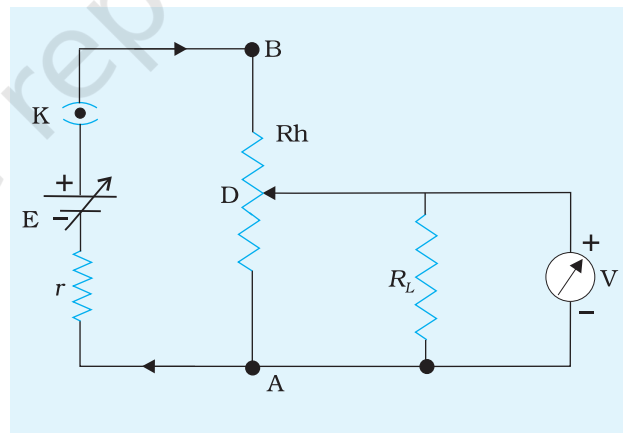

Fig. A 6.3
- A rheostat R_h used in laboratories along with a key K , battery of emf E and internal resistance r is shown in Fig. A 6.3. R_L is some load resistance that represents an auxiliary circuit which may be there in reality. If D is the midpoint of the wire AB , what would be the voltmeter reading? Does it depend on the value of R_L or R_V , if R_V represents the resistance of the voltmeter? Does it depend on r ?
1. Connect a circuit as shown in Fig. A 6.3. Record potential difference at various length l from end A. Plot a graph of V versus l . Obtain from the graph the length that corresponds to 1.3 V. Draw a circuit diagram to show how you can supply 1.3 V to an auxiliary circuit that works at 1.3 V.